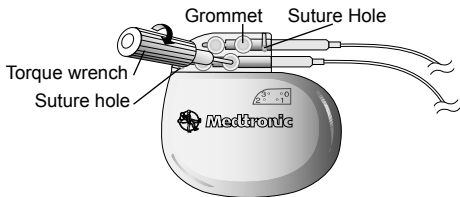

Figure 3. Tightening the setscrews in the self-sealing grommet.
4. Fully insert the torque wrench into each self-sealing grommet of the connector block, and tighten each setscrew by turning the torque wrench clockwise until you hear a click (Figure 3).
- Note:** The torque wrench must be oriented to the same angle as the setscrew (Figure 3).